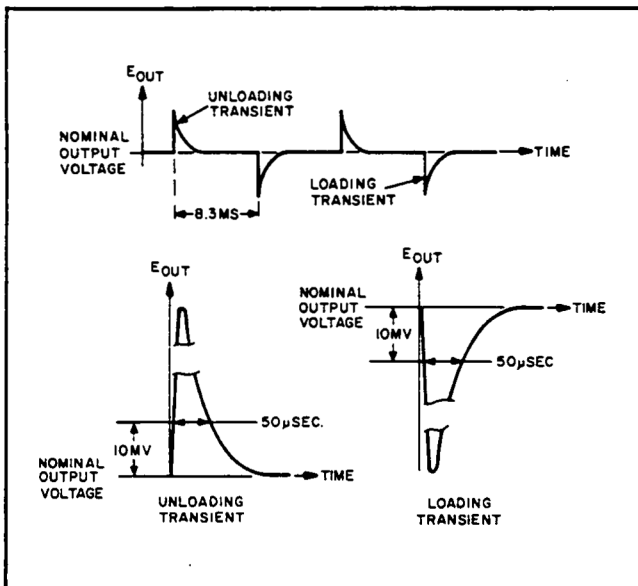

Figure 5-6. Transient Recovery Time, Waveforms
- k. Starting from the major graticule division representative of time zero, count to the right $50\mu\text{sec}$ and vertically 10mV . Recovery should be within these tolerances as illustrated in Figure 5-6.